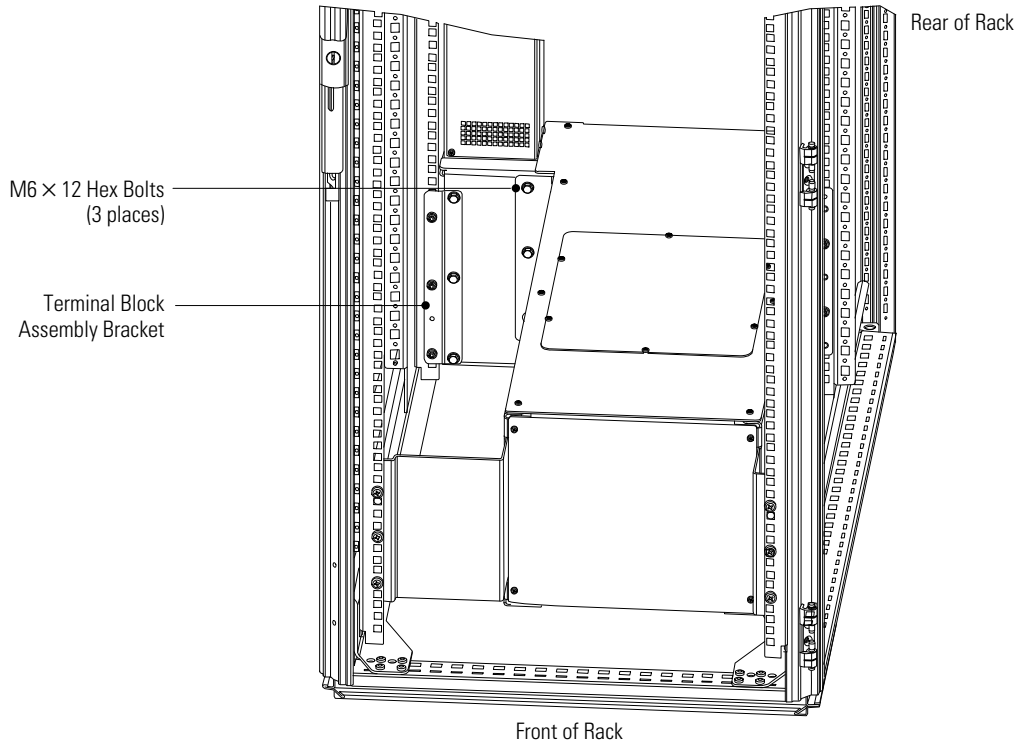

Figure 5. Terminal Block Assembly Installation
10. Note the orientation of the terminal block assembly bracket installed on the bar for later re-installation (see Figure 5). Remove and retain the terminal block assembly bracket and hardware.
- 12. Secure the bar to the wireway with three M6 × 12 hex bolts. Install the bolts from the **front** of the rack. See Figure 5. Torque the bolts to 5.1 ± 0.8 Nm (45 ± 7 lb in).
- 13. Reinstall the terminal block assembly bracket removed in Step 10. Install the bolts from the **front** of the rack. See Figure 5. Torque the bolts to 5.1 ± 0.8 Nm (45 ± 7 lb in).